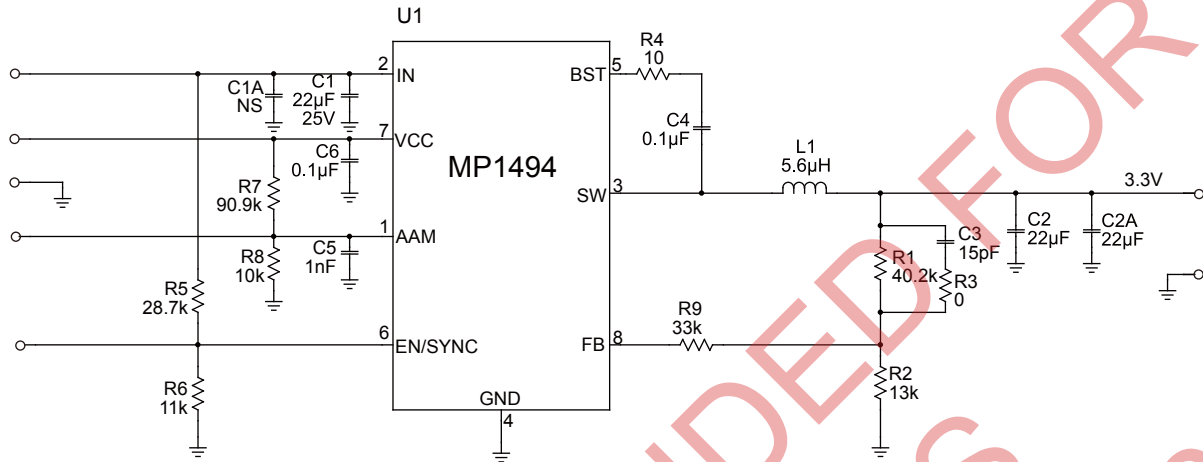

Figure 8: 12V_{IN}, 3.3V/2A
- 8) The recommended layout is based on the Figure 8 Typical Application circuit on the next page.